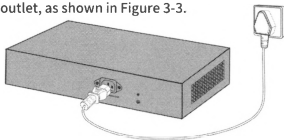

Figure 3-3: Power connection diagram
3.3.2 Use the original power cord of the switch to connect the switch to the power outlet, as shown in Figure 3-3.